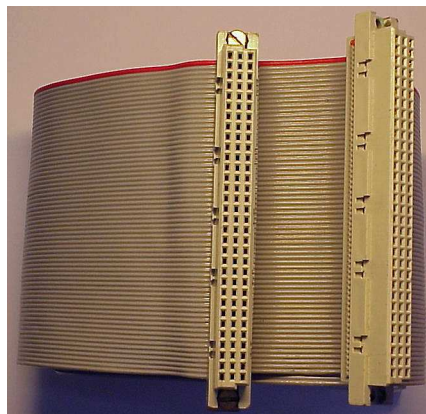

Figure 7.2 Ribbon test cable (2 pcs)
- Ribbon cable NM20181J, (64-pin with DIN 41612 8" Euro") connectors, 2pcs (See Figure 7.2 Ribbon test cable (2 pcs).)